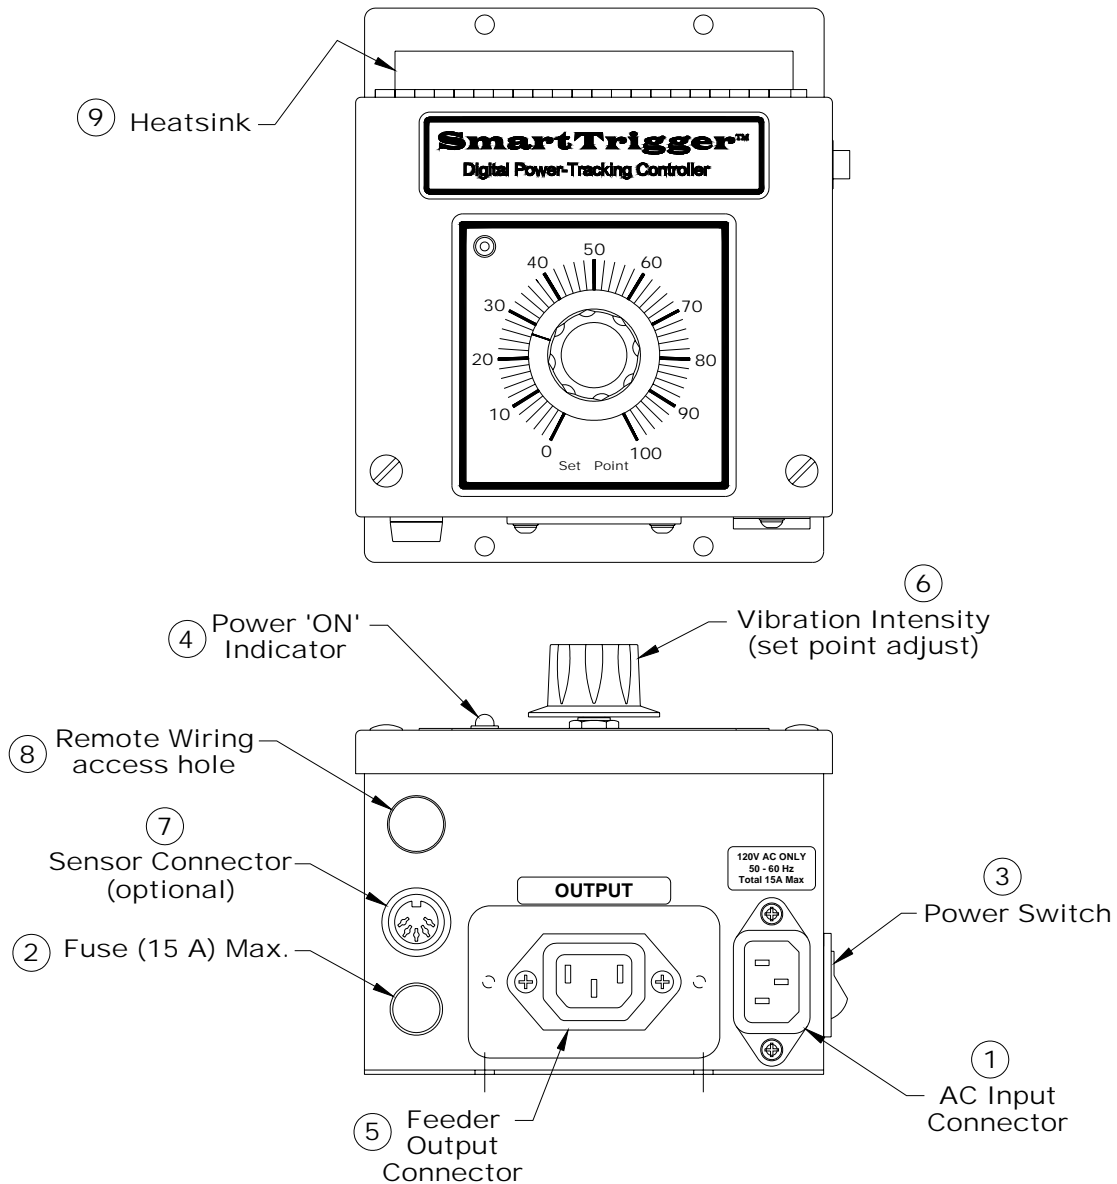

Figure 1. SmartTrigger™ Digital Power-Tracking Controller
1. **AC Input Connector** - (see Figure 1) A quick disconnect cord plugs into a standard 110 or 220 Volt AC outlet to power the controller. The controller requires between 95-140 Volts AC, 50/60 Hertz for the 110 volt unit and 190–250 Volts AC, 50/60 Hertz for the 220 volt unit.
2. **Fuse** – (see Figure 1) The Input fuse should be sized to accommodate the feeder requirements, but not to exceed 15 amps maximum.
3. **Power Switch** – (see Figure 1) Upon power up there is a 0.2-second pause for internal calibration that may be followed by a soft start delay of 0.8 seconds, depending on **DIP Switch** settings.
4. **Power ‘ON’ Indicator** – (see Figure 1) Upon power on with the power switch, the power ‘ON’ lite will illuminate indicating that power is on providing the input fuse is good.
5. **Feeder Output Connector** – (see Figure 1) Supplies the output to drive the feeder coils. This is a variable power output. (connectors are different for 110 or 220 version)
6. **Vibration Intensity (set point adjust)** – (see Figure 1) Selects the desired amplitude of vibration intensity.
7. **Sensor Connector** – (see Figure 1) The Sensor connector is used to connect the Smart Trigger to a (optional) sensor unit if required for a tighter control of the output.
8. **Remote Wiring access hole** – (see Figure 1) The unit is factory delivered with this hole covered by a metal snap-in cap. A cord grip may be installed for securing external wiring at this location. This is very useful when utilizing features such as interlocking, coupling of the Universal Input to a photocell or PLC output, etc.
9. **Heatsink** – (see Figure 1) Dissipates the heat generated by the electronics. It is specified for a continuous 15 Amp RMS bowl current in an ambient temperature environment of 45° Celsius.